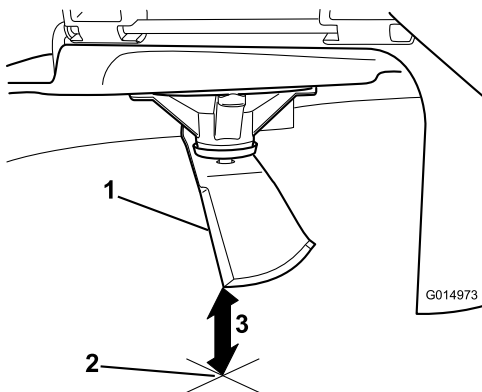

**Figure 73**
3. Measure from the tip of the blade to the flat surface (Figure 73).